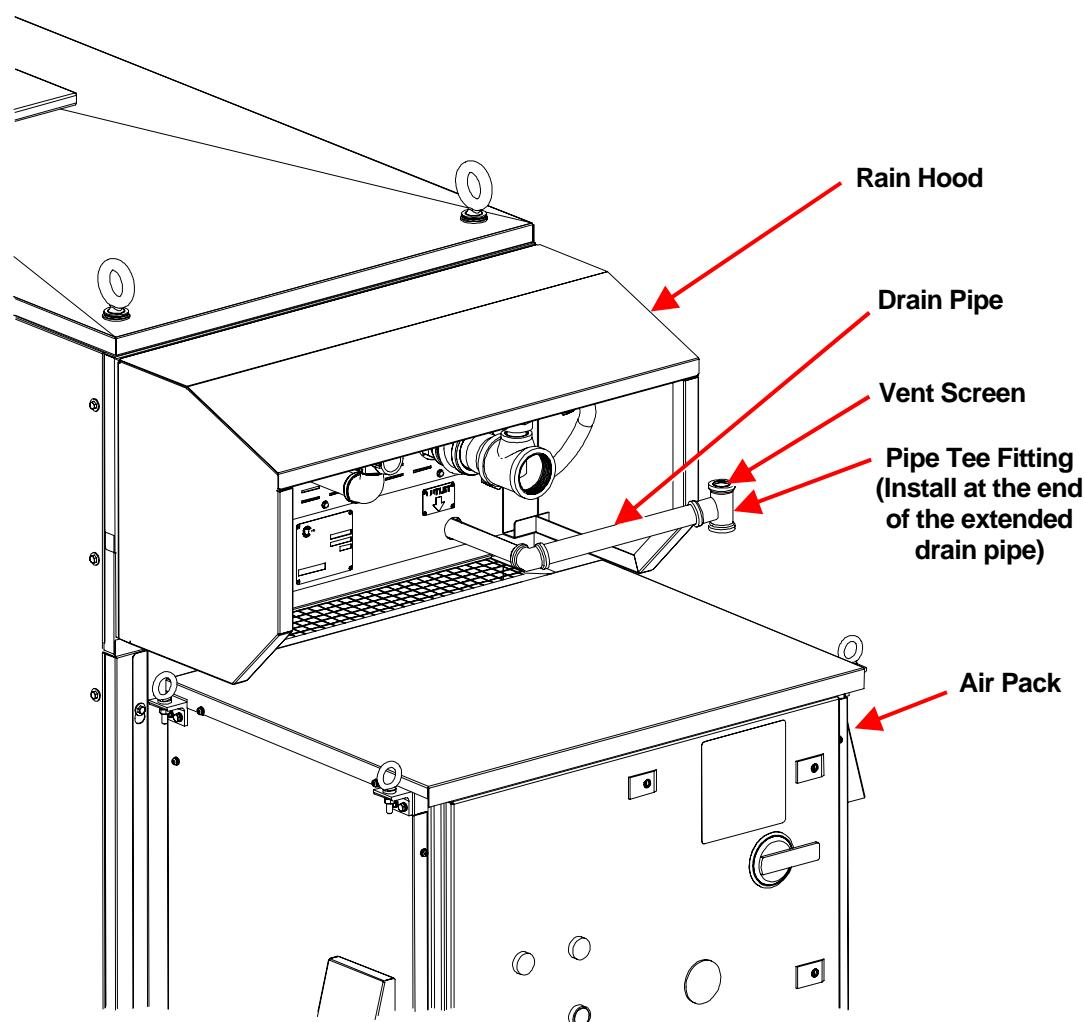

Figure 7. View of HRM Showing Rain Hood and Drain Pipe
- a. Re-install the rain hood at the back of the Heat Recovery Module (HRM). See Figure 7. Tighten the rain hood mounting screws.
- b. Use NPT sealant on the following NPT connections. Decide which side (left or right) of Air Pack is convenient for extending the drain pipe, and install a 90°, $\frac{3}{4}$ NPT fitting (not supplied by Capstone) to the drain pipe. Install an extra piece of $\frac{3}{4}$ NPT pipe, threaded at both ends (not supplied by Capstone) to the 90° fitting. Install the pipe Tee fitting to the end of the extended pipe with vent screen facing upwards (not shown on Figure 7).